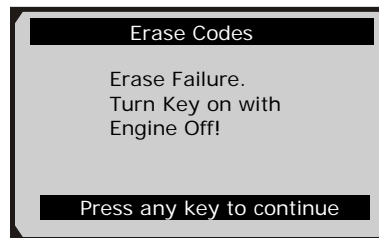

Figure 5.9
- If the codes are not cleared, then an "Erase Failure. Turn Key on with Engine off!" message appears. (Figure 5.9)